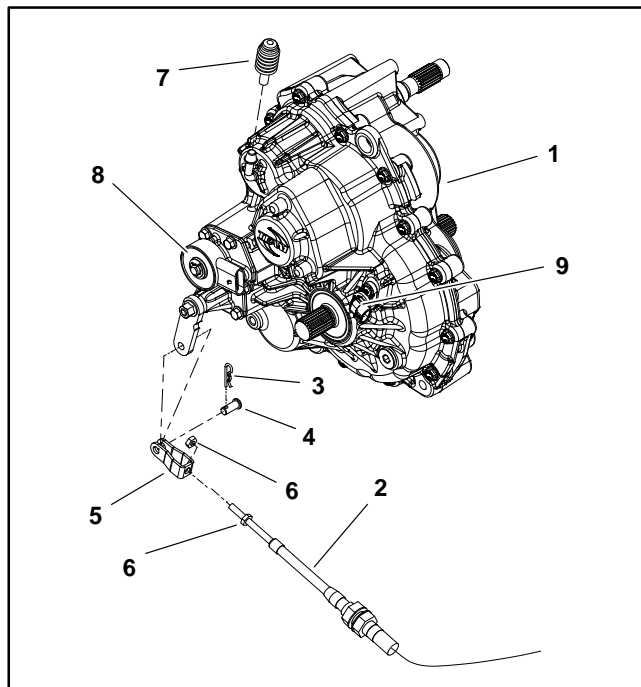

Figure 53
6. Disconnect wire harness connectors from rotary switch and speed sensor on front of transmission (Fig. 53).
7. Remove hairpin and clevis pin that secure shift cable to transmission lever. Remove shift cable clevis from lever (Fig. 53).
9. Remove two (2) flange head screws and flange nuts that secure transmission to tabs on engine/transmission mount.
5. Secure the transmission in place by fully tightening the two (2) flange nuts and flange head screws.
7. Install shift cable clevis to transmission lever and secure with clevis pin and hairpin (Fig. 53).
8. Connect wire harness connectors to rotary switch and speed sensor on front of transmission (Fig. 53).